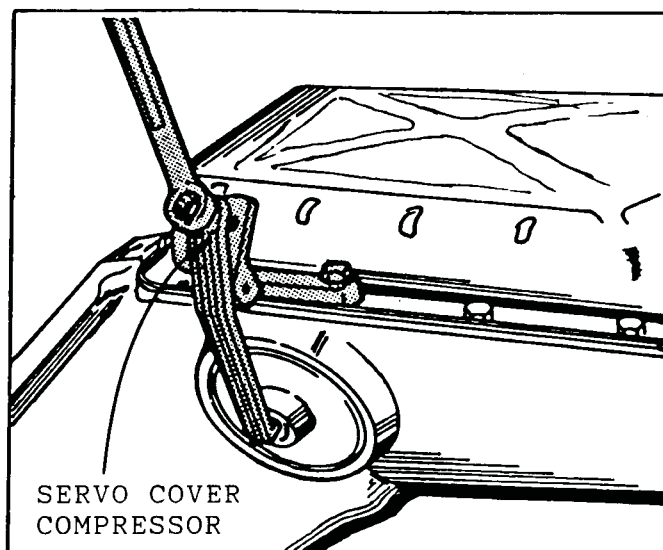

Figure 33
1. Install J-29714 servo cover compressor (Figure 33).